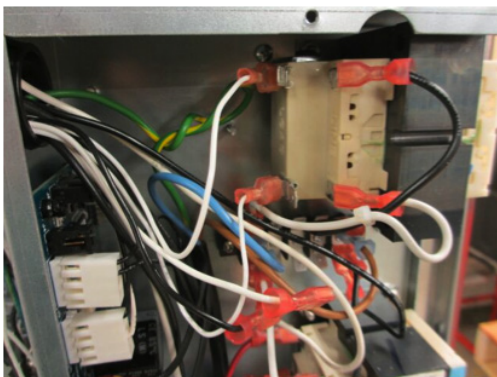

Figure 11
- H. Connect heater wires to the adaptors (Figure 11).